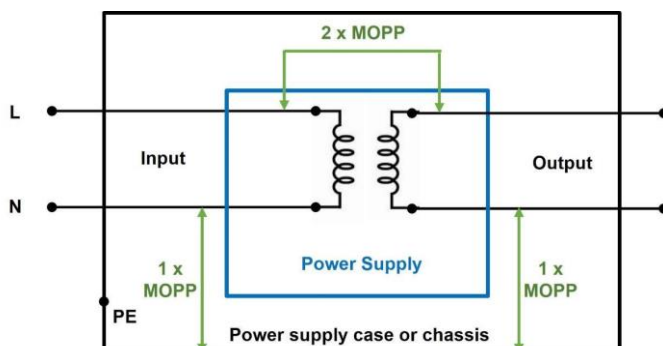

Figure 5: CUS250M MOPP isolation diagram
- 1) The power supply must have 1 x MOPP (Means of Patient Protection) from the input to ground (chassis) and 1 x MOPP from the output to ground. The CUS250M does have this (Figure 5).